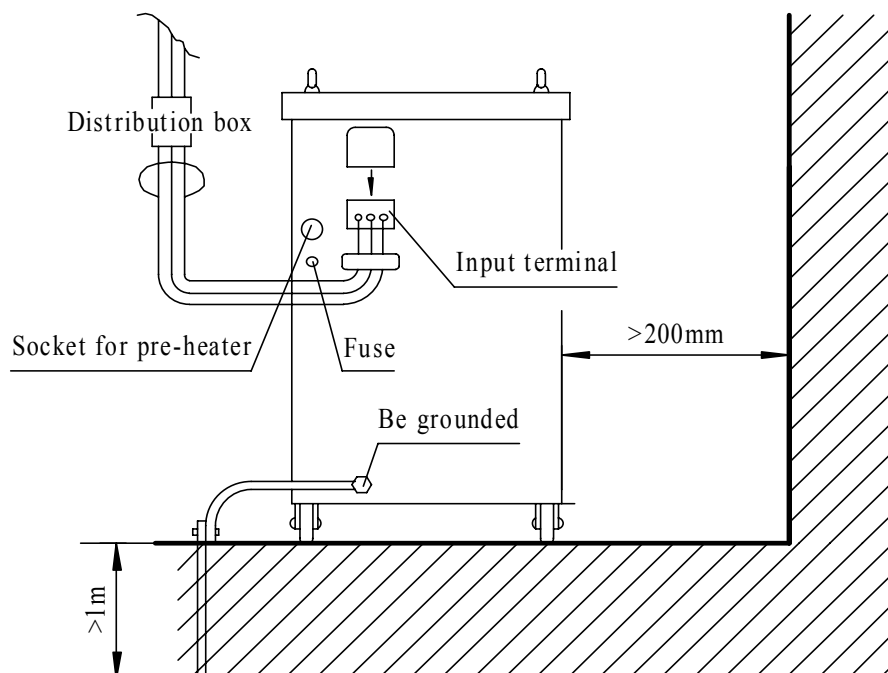

Fig.2 Connection of welder and distribution box
② **If there is no network power, when using engine as power supply, please notice the capacity of engine should be over 2 times of welder and the engine should be with compensating winding.**
2. Connection of welder and distribution box is shown as Fig.2